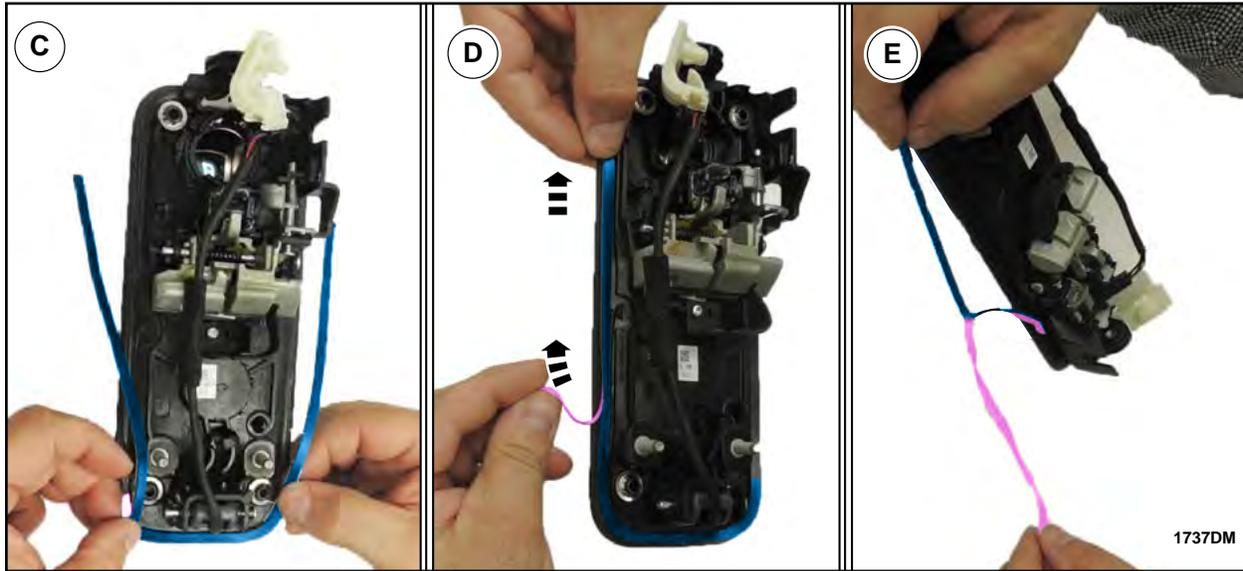

FIGURE 46
- C. Align the marks made on the Foam E and exterior door handle and adhere the back center portion to the exterior door handle as shown in Figure 46.
- D. Lay one side of Foam E down on the exterior door handle and without stretching the foam pull off the adhesive backing as you adhere Foam E to the exterior door handle as shown in Figure 46.
- E. Remove the protective backing from the other side of Foam E as shown in Figure 46.